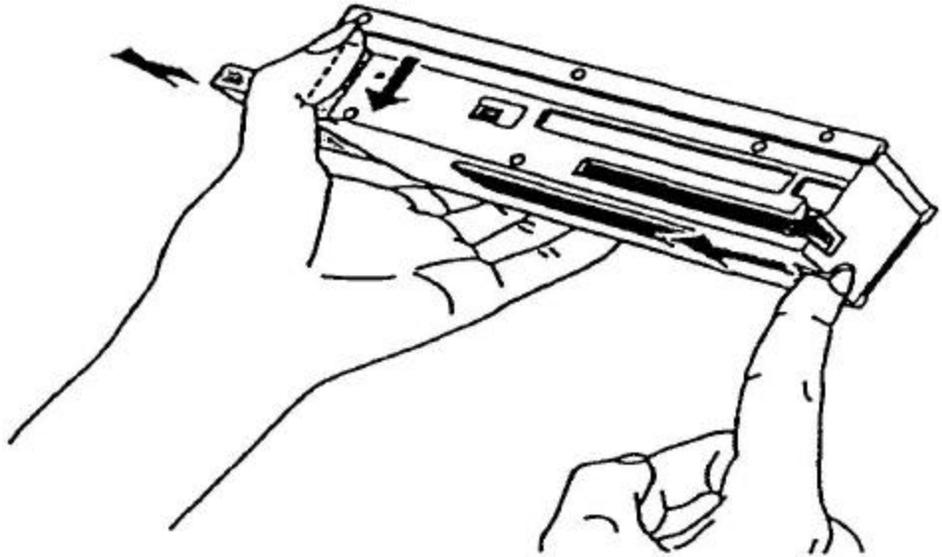

Figure 3-9. Pushing the cartridges from the rear of the magazine
1. Pressing down on the magazine stopper, place your finger in the hole at the rear of the magazine and push data cartridges toward the front of the magazine, see Figure 3-9.